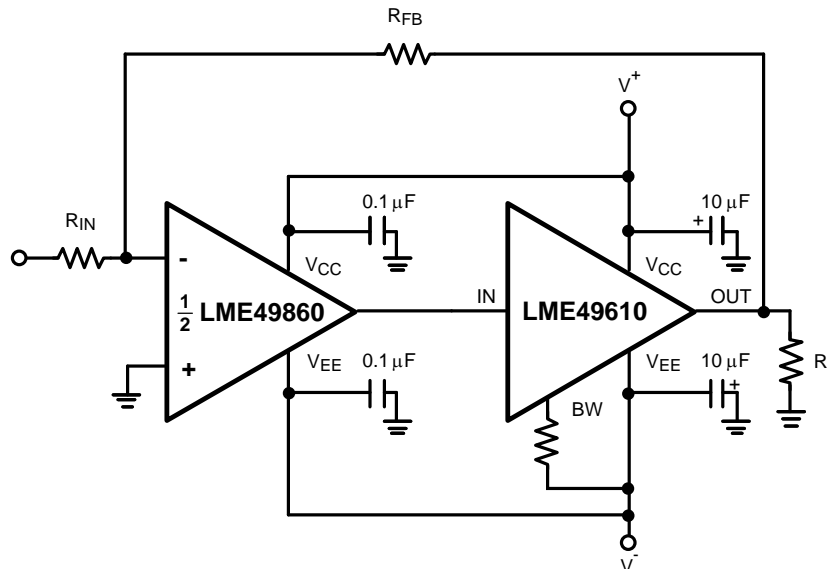

Figure 27. High Performance, High Fidelity LME49610 Audio Buffer Application
- (1) “*Absolute Maximum Ratings*” indicate limits beyond which damage to the device may occur, including inoperability and degradation of device reliability and/or performance. Functional operation of the device and/or non-degradation at the Absolute Maximum Ratings or other conditions beyond those indicated in the *Recommended Operating Conditions* is not implied. The *Recommended Operating Conditions* indicate conditions at which the device is functional and the device should not be operated beyond such conditions. All voltages are measured with respect to the ground pin, unless otherwise specified
- (2) The *Electrical Characteristics* tables list specifications under the listed *Recommended Operating Conditions* except as otherwise modified or specified by the *Electrical Characteristics Conditions* and/or Notes. Typical specifications are estimations only and are not ensured.
- (3) If Military/Aerospace specified devices are required, please contact the Texas Instruments Sales Office/ Distributors for availability and specifications.
- (4) Human body model, applicable std. JESD22-A114C.
- (5) Machine model, applicable std. JESD22-A115-A.
- (6) The maximum power dissipation must be derated at elevated temperatures and is dictated by  $T_{JMAX}$ ,  $\theta_{JA}$ , and the ambient temperature,  $T_A$ . The maximum allowable power dissipation is  $P_{DMAX} = (T_{JMAX} - T_A) / \theta_{JA}$  or the number given in *Absolute Maximum Ratings*, whichever is lower. For the LME49610, typical application shown in Figure 27 with  $|V_{EE}| = V_{CC} = 15V$ ,  $R_L = 32\Omega$ , the total power dissipation is 1.9W.  $\theta_{JA} = 20^\circ\text{C/W}$  for the DDPAK/TO-263 package mounted to  $16\text{in}^2$  ( $103.2\text{ cm}^2$ ) 1oz. copper surface heat sink area.